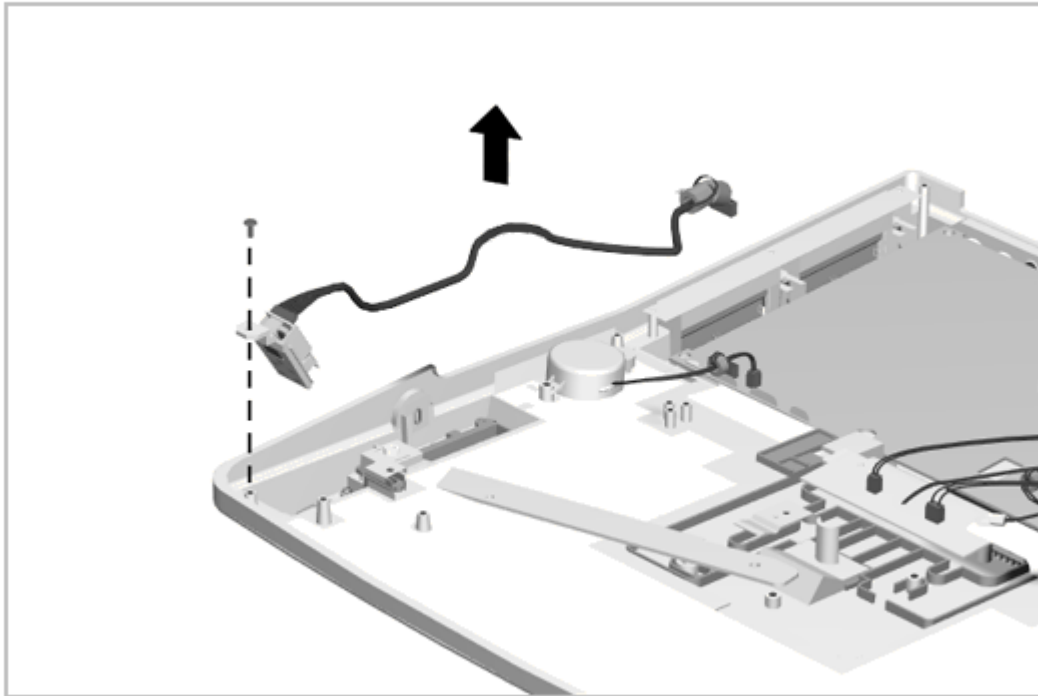

Figure 6-25. Removing the Power Switch Assembly
4. Remove the screw holding the power switch board in place and lift the board out (Figure 6-25).